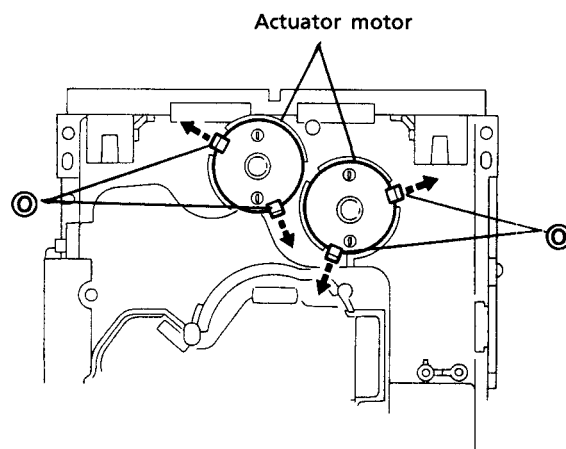

Fig. 39
5. Reverse the chassis ass'y and widen 4 pawls **(O)** which secure both actuator motors to its arrows to remove the actuator motors. (See Fig. 39.)